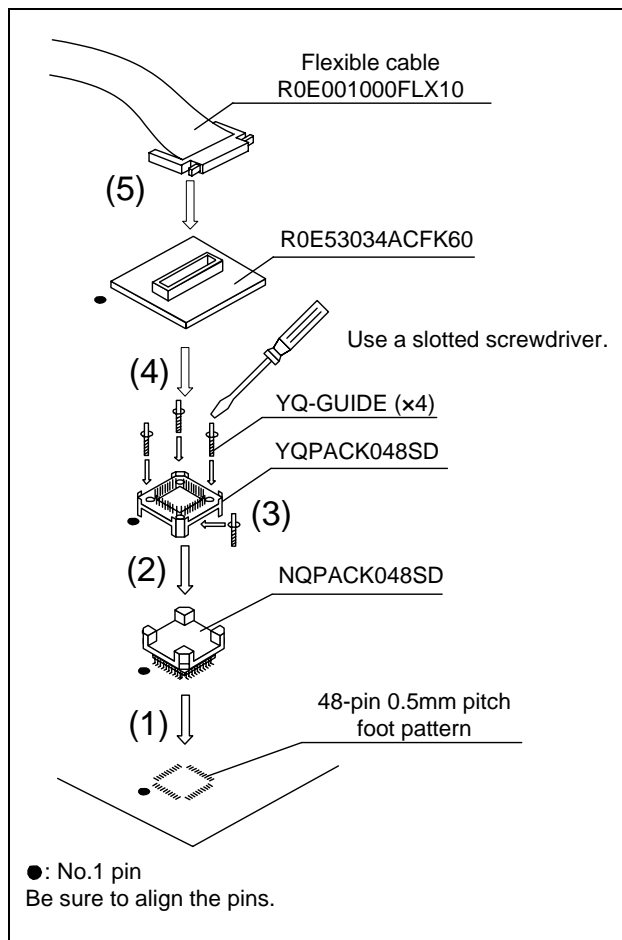

Figure 3 Connection procedure of the R0E53034ACFK60
5. Connection Procedure (See Figure 3)